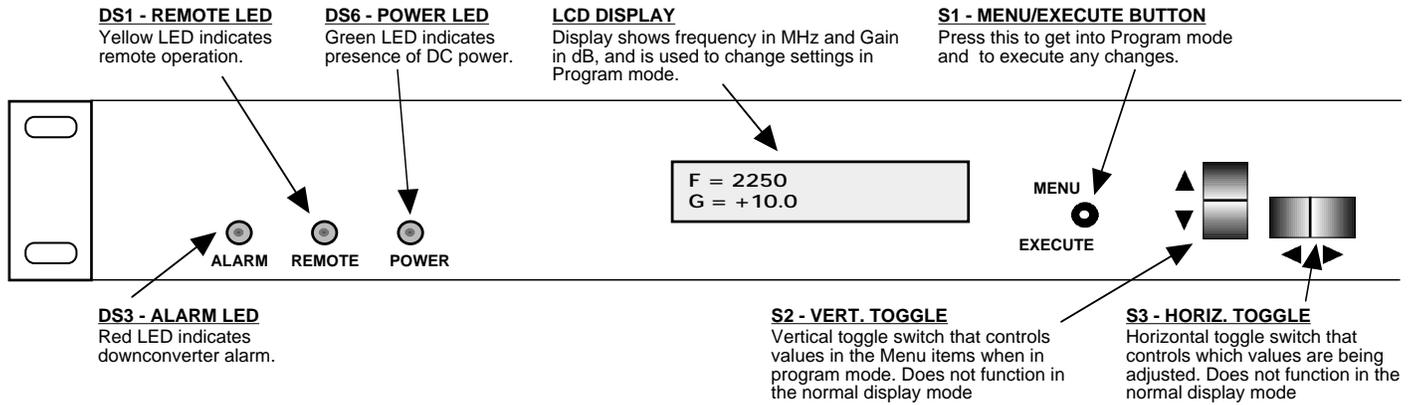

FIGURE 2.3 2016-25-300 Front Panel Controls and Indicators
6. Be sure DS6 (green, DC Power) is on and DS2 (red, Alarm) is off (Figure 2.3).
7. **AC Fuse** - The fuse is a 5 mm X 20 mm, 2 amp slow blow (Type T) and is inserted in the far slot in the drawer below the AC input as shown in Figure 2.3. There is a spare fuse in the near slot.